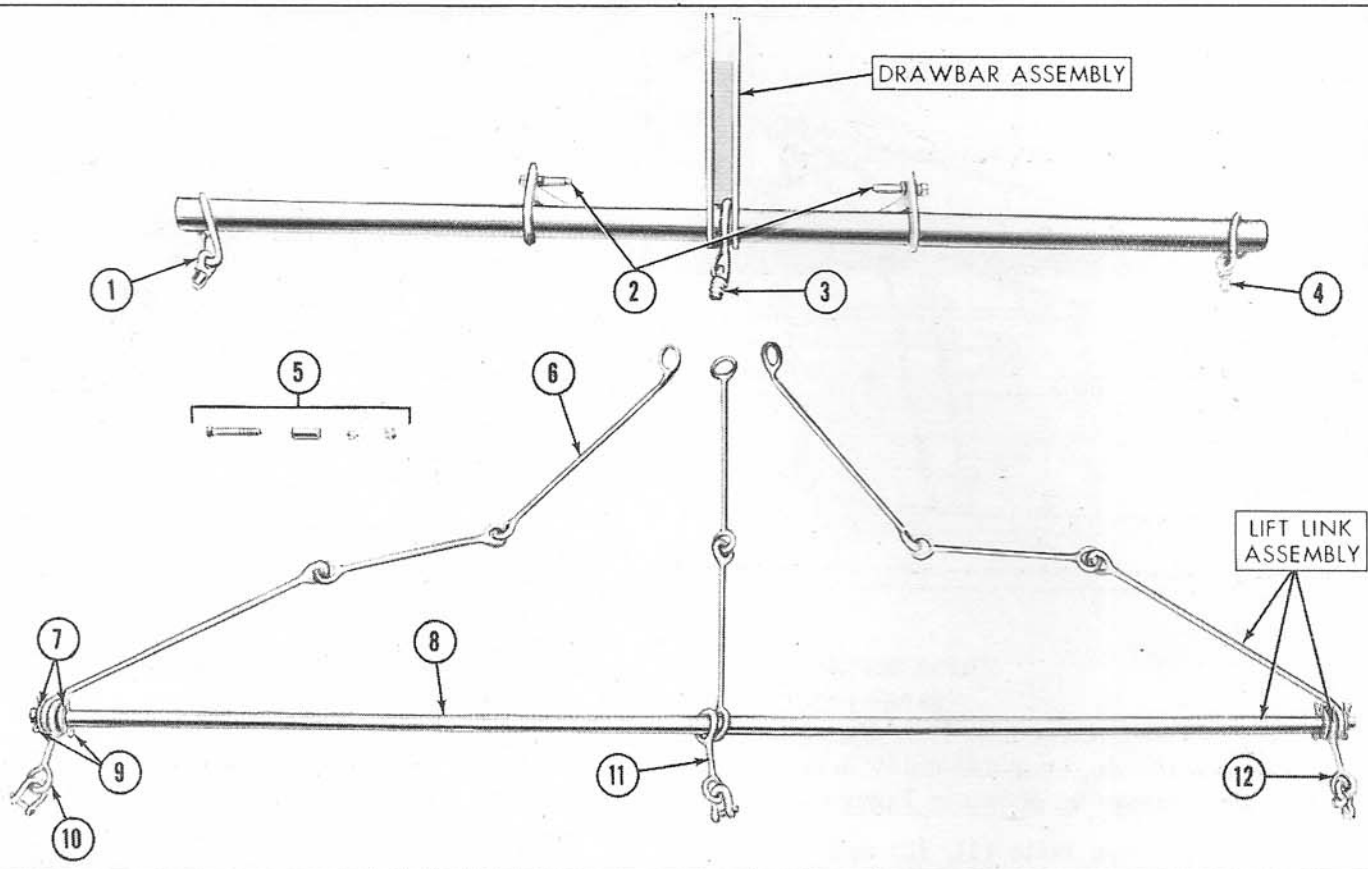
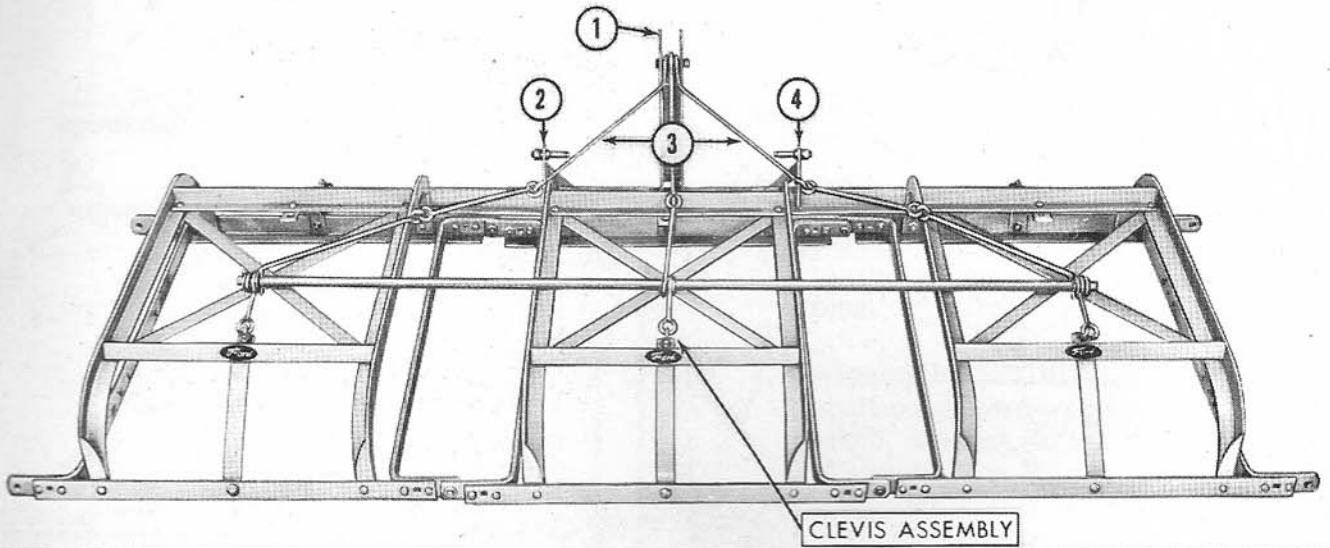

Figure 8
Figure 9
3. Install the link pins (2), Figure 8, in the drawbar assembly using the two 7/8" lockwashers and hex nuts provided.
4. Assemble the lift link assembly by positioning the link assembly (6), Figure 8, the link (10) and the flat washers (7) on the rod (8) as shown and secure with cotter pins (9). Install the remaining link assemblies and links in the same manner.
5. Position the drawbar assembly in front of the sections as shown in Figure 9.
6. Attach the eye bolts (1), (3) and (4), Figure 8, to the front of each section with the 5/8" washer and nut provided as shown in Figure 9. Note that the eye bolts also secure the front end brace to the frame in each section.
7. Position the lift link assembly on the sections and attach the links (10), (11)
and (12), Figure 8, to the rear end brace of each section with the shackle assembly as shown in Figure 9.
8. Attach the forward end of the link assemblies (3), Figure 9, to the drawbar assembly as shown, with the 5/8" x 3-1/2" hex head bolt, spacer, lockwasher and nut (see 5, Figure 8).
9. Attach the tractor lower lift links to the link pins (2) and (4), Figure 9, and secure with the linch pins provided. Attach the tractor upper link to the drawbar assembly at (1) with the pin and linch pin provided.